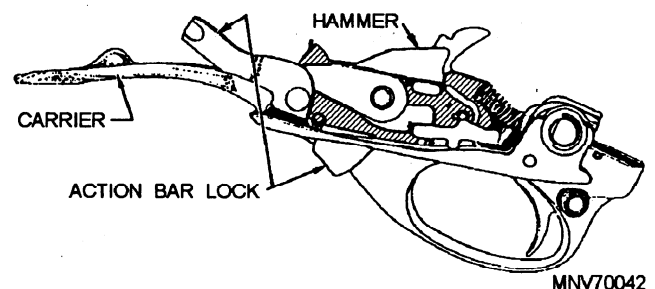

Figure 2-29.—M870 trigger plate assembly.
**MAGAZINE LOAD.**—Push the safety to the SAFE position. Slide the fore-end completely forward to close the action. Turn the gun bottom upward and press the shell against the carrier, then forward fully into the magazine. Make sure the rim of the shell snaps past the shell latch to prevent the shell from sliding backover the carrier. Should this occur, open the action or, if necessary, remove the trigger plate assembly (fig. 2-29), if the gun is cocked, to remove the shell.